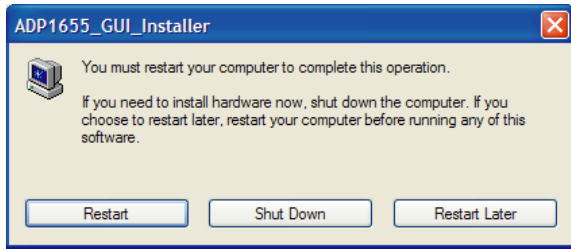

Figure 7. Restart Prompt Window
- After file installation is completed, the window in Figure 7 opens. Click **Restart** to complete the operation.